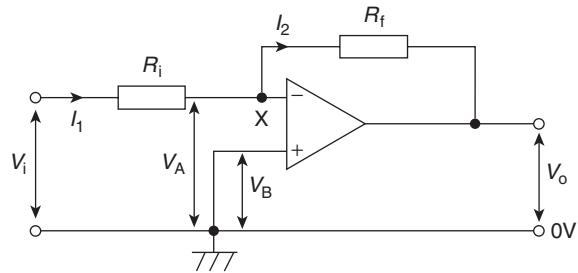
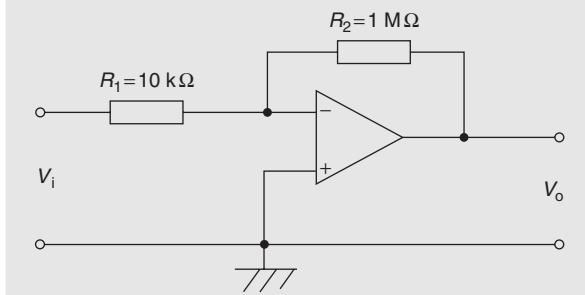

Figure 19.5
Figure 19.6
Operational amplifiers nearly always use **negative feedback**, obtained by feeding back some, or all, of the output to the inverting (−) input (as shown in Fig. 19.5 in the next section). The feedback produces an output voltage that opposes the one from which it is taken. This reduces the new output of the amplifier and the resulting closed-loop gain A is then less than the open-loop gain A_o . However, as a result, a wider range of voltages can be applied to the input for amplification. As long as $A_o \gg A$, negative feedback gives:
The basic circuit for an inverting amplifier is shown in Fig. 19.5 where the input voltage V_i (a.c. or d.c.) to be amplified is applied via resistor R_i to the inverting (−) terminal; the output voltage V_o is therefore in anti-phase with the input. The non-inverting (+) terminal is held at 0 V. Negative feedback is provided by the feedback resistor, R_f , feeding back a certain fraction of the output voltage to the inverting terminal.
- the inputs are both at the same potential if the op amp is not saturated, i.e. $V_A = V_B$ in Fig. 19.5
In Fig. 19.5, $V_B = 0$, hence $V_A = 0$ and point X is called a **virtual earth**. Thus,
Problem 4. In the inverting amplifier of Fig. 19.5, $R_i = 1\text{ k}\Omega$ and $R_f = 2\text{ k}\Omega$. Determine the output voltage when the input voltage is: (a) +0.4 V (b) –1.2 V.
Problem 5. The op amp shown in Fig. 19.6 has an input bias current of 100 nA at 20 °C. Calculate (a) the voltage gain, and (b) the output offset voltage due to the input bias current. (c) How can the effect of input bias current be minimised?
Comparing Fig. 19.6 with Fig. 19.5, gives $R_i = 10\text{ k}\Omega$ and $R_f = 1\text{ M}\Omega$
(c) The effect of input bias current can be minimised by ensuring that both inputs 'see' the same driving resistance. This means that a **resistance of value of 9.9 kΩ** (from part (b)) should be placed between the non-inverting (+) terminal and earth in Fig. 19.6
With reference to Fig. 19.5, and from equation (5),
4. In the inverting amplifier of Fig. 19.5 (on page 292), $R_i = 1.5 \text{ k}\Omega$ and $R_f = 2.5 \text{ k}\Omega$. Determine the output voltage when the input voltage is: (a) +0.6 V (b) -0.9 V